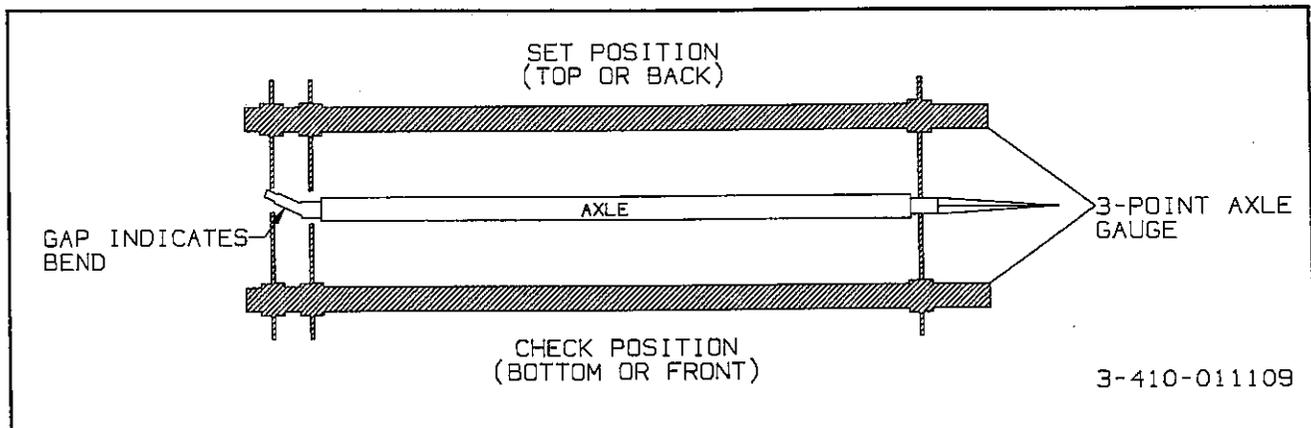

Figure 6-7 Bent Axle Check
**6-15.2** Place a 3-point axle gauge against the front side of the axle, and adjust each axle gauge point to the axle. (Double point end against the inner and outer wheel bearing surfaces of the spindle being checked and the other point on the inner bearing surface on the other spindle)(see Figure 6-7).
**6-15.3** Move the axle gauge and place against the back side of the axle. If either of the points of double point end fails to touch the axle surface, a bent spindle is evident. A point gap of .015" or more is considered excessive tire "toe" and the axle must be replaced (see Figure 6-7).